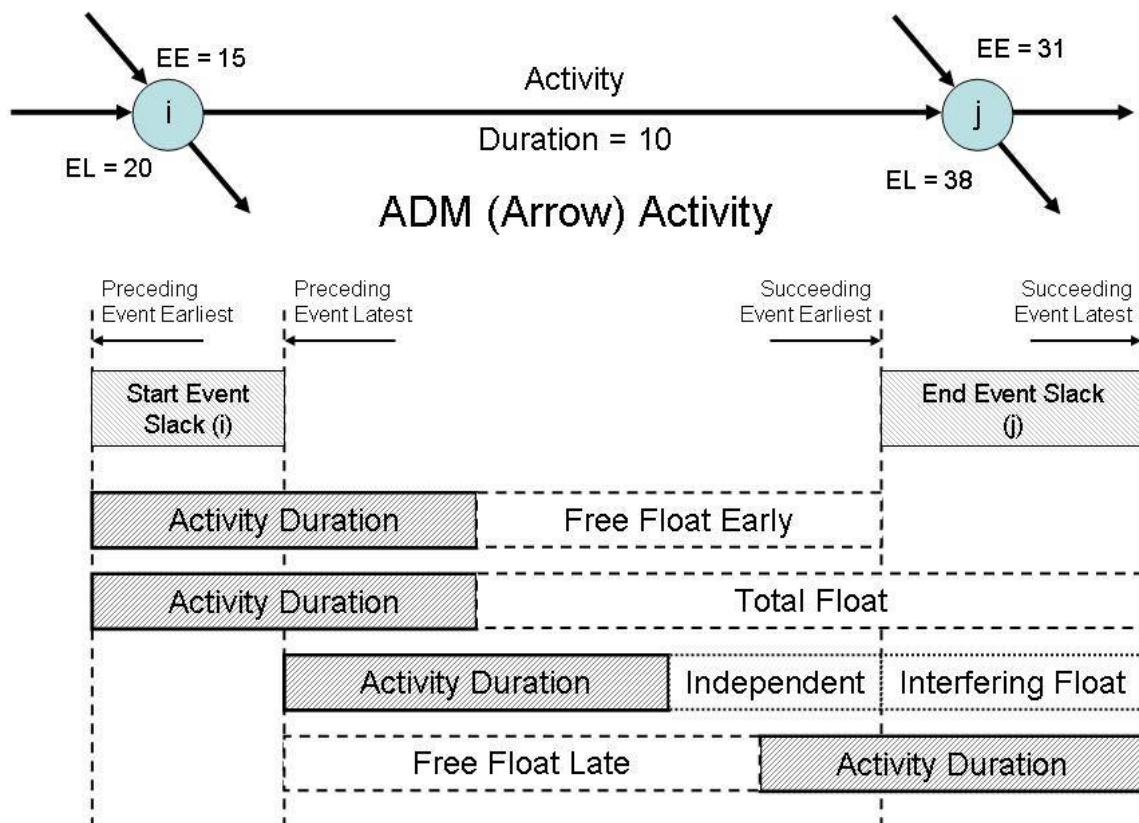

Figure 1 - ADM Float
Structurally, the key feature of an ADM network is that the Start Event (i) for the activity in focus in Figure 1 is the end event (j) for the preceding activities and also the start event for the second activity shown angling downwards. Similarly, the end event (j) for the activity in focus is the start event for the succeeding activities. Events occupy no time. The Event Early (EE) and Event Late (EL) times are calculated from time analysis as follows:
The options are outlined in Figure 1 below. In this portion of a network, the two events are fixed by activities other than the one in focus; ie, you could remove the activity and the schedule times for the events would not change (this is necessary to allow all of the float types to be visible - Figure 1 is not to scale).